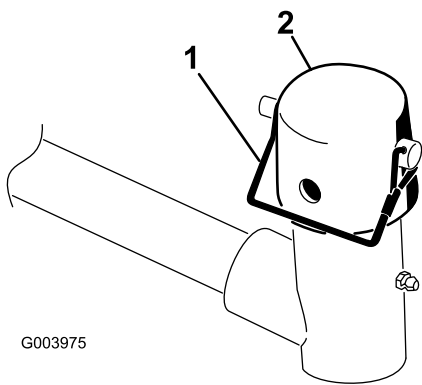

Figure 9
- Remove the snapper pin and the cap from the lift-arm-pivot yoke (Figure 9).
11. Secure the cap and the carrier-frame shaft to the lift-arm yoke with the snapper pin (Figure 9).